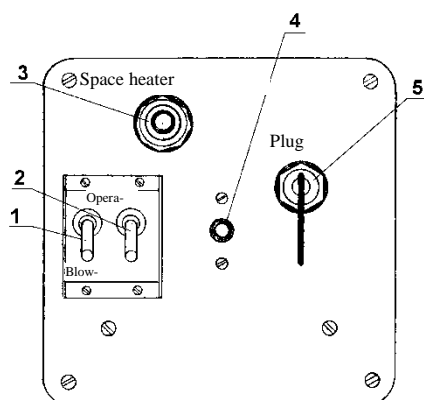

Fig. 20 Heater panel board
4.11.2.3 Blow down the boiler gas duct – run the pump unit for 15-20 seconds by setting motor switch 1 (Fig. 20) into position OPERATION.